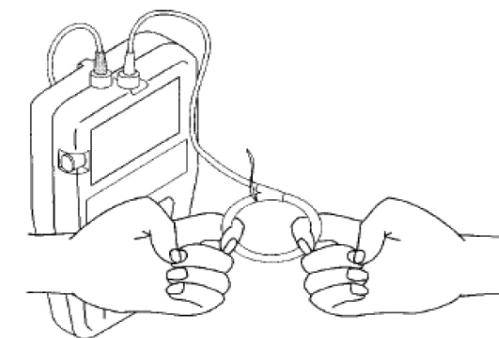

Fig. 4-5 Expanding the Loops
3. Expand the loop to its maximum circumference by inserting your fingers in the loop and slowly applying outward pressure until the loop will no longer expand. (see Figure 4-5). If the cable of the tension guide had been drawn into the RigiScan monitor slowly expand the loop; you will be spinning internal gears and motor within the RigiScan.